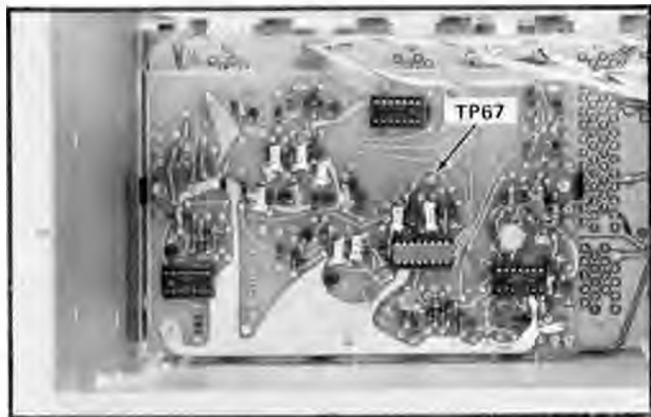

Fig. 3-4. Location of TP67 on Logic board (shown with power unit removed).
- b. Connect the probe tip to TP67 (see Fig. 3-4).